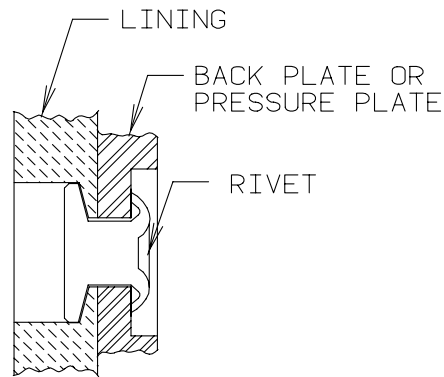

Figure 203 - Rivet Installation, Organic Lining
The organic brake lining is identified by its semi hard composition and rivets used to attach the lining to the pressure plate or back plate. The rivet holes are visible on the lining. Non asbestos, lead free lining material is also being used as a replacement for the old style organic lining and is removed and installed in the same manner as the organic lining. Ref. Figure 203. Appendix C provides a brake assembly / lining cross-reference information. Once it is determined which type lining is being replaced, follow the appropriate instructions listed below.
- 7 On design so equipped, install the center retention rivet as shown in Figure 203.